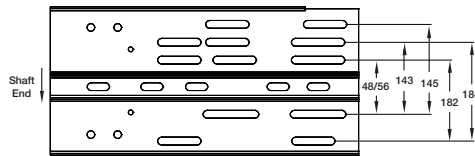

Figure 7 — Motor Mounting Positions Based on Motor Frame Size
1. Secure motor to plate using hardware provided. Holes will align when the motor frame (shaft end) is flush with the edge of the motor plate. Motor mounting hardware is included in the hardware kit attached to the drive frame. Refer to Figure 7 for mounting position based on motor frame size. Refer to page 6 for contents of kit.